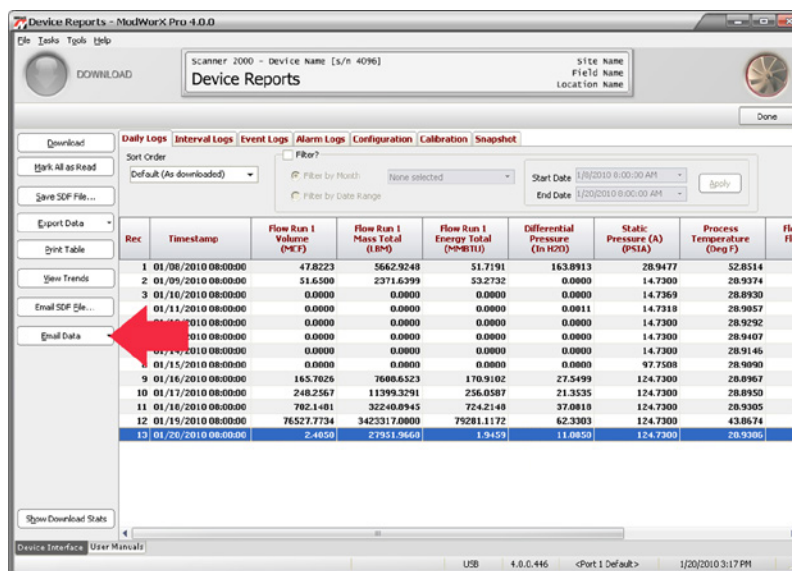

Figure 14.27
2. Click the **Email Data** button at the left of the screen (Figure 14.27) and select the export format desired (.XLS, .CSV, .PDF, .RTF, or html). Please note that calibration data can be exported for email in any format except .CSV.